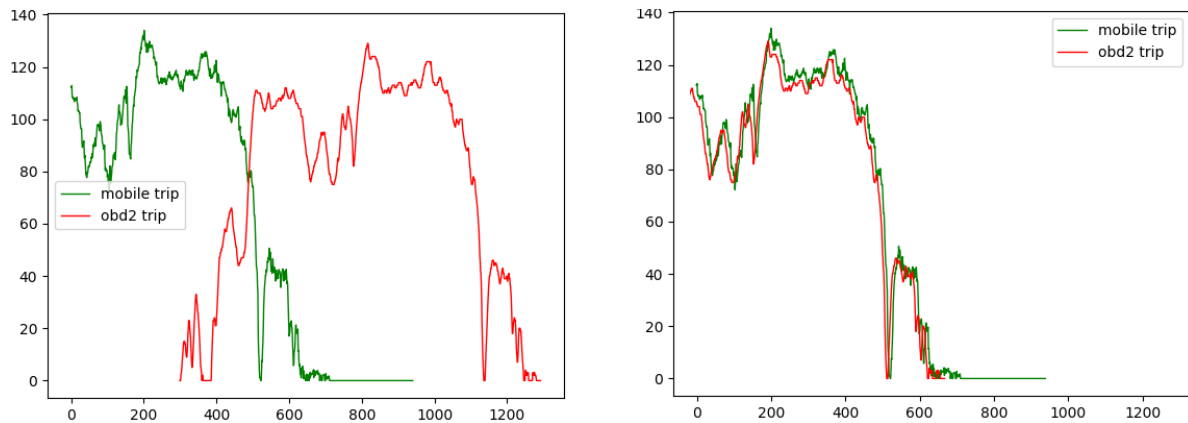

Figure 5: the plots are in their original position (left), OBDII plot is shifted to left side (right)
Step 1 - Slicing OBDII: For each Mobile trip, I tried to find its best match among the set of OBDII trips. To find the matching pair, the algorithm picked up a Mobile trip and then checked its similarity with all OBDII trips. When the algorithm picks up an OBDII trip to compare with a Mobile trip, it starts comparing at the initial timestamp of the OBDII data. Then iteratively it keeps slicing the OBDII plot along the time axis, shifting it to the left and makes a new comparison with the Mobile data plot. Figure 5 shows how the slicing works. In the left graph, OBDII seems to have a match with the Mobile, but it's right shifted. So the algorithm takes the OBDII plot and starts slicing and shifting it to the left along the time axis and computes similarity between the plots after each slicing. I named it 'slicing', because in the right graph almost 33% data of OBDII is lost due to the 'slicing'. In each iteration the Mobile plot and the sliced OBDII plot are compared using **Dynamic Time Warping**.